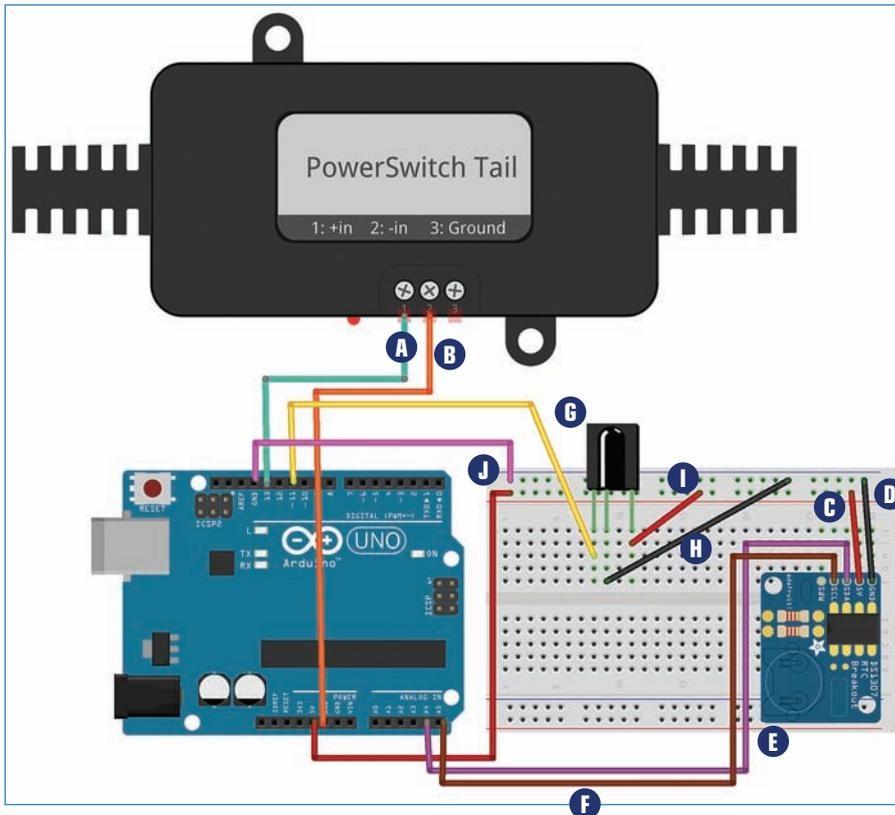

FIGURE 12.11 Wire up your Lava Lamp Buddy as you see here.
This is a slightly more complicated rig than the mini project earlier in this chapter, which also features a PowerSwitch Tail. Not only are you adding an IR sensor, but there's a real-time clock module, as well as the expected Arduino. Here's how to wire up the Lava Lamp Buddy, following along with Figure 12.11.
1. Wire up the Arduino, PowerSwitch Tail, RTC module, and IR sensor, as you see in Figure 12.11.
- A** Connect terminal 1 of the PowerSwitch Tail to pin 13 of the Arduino. This is the green wire shown in Figure 12.11.
- B** Connect terminal 2 to a GND pin on the Arduino. This is the orange wire shown in Figure 12.11.